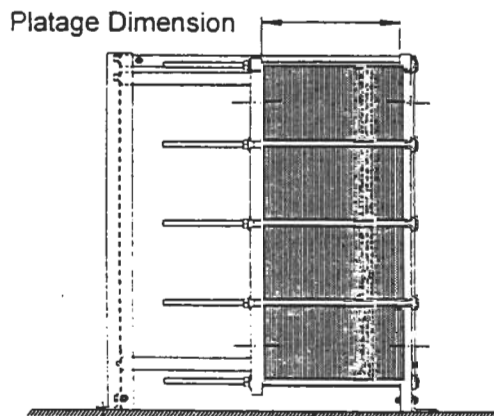

Figure 24
6. Tighten the exchanger to the maximum platage dimension specified on the plate arrangement drawing. The dimension must be the same at all tie bars. See **Figure 24**
Prior to startup, make sure the unit is correctly assembled and the piping connected properly. Also, check that the plates have been compressed to the proper dimension specified on the general arrangement drawing. See Figure 24 and refer to Section 5.0.